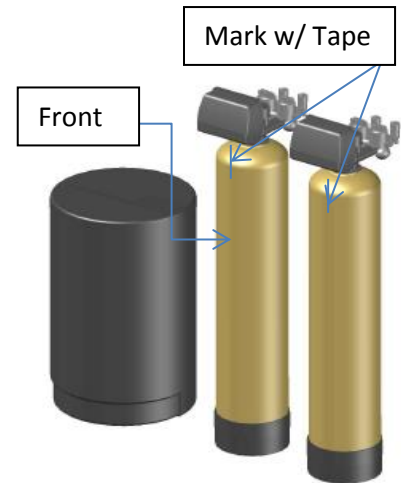

Figure 7: Correctly Set Up DCS6 Twin System
- d. Mark the "front" of each resin tank (shown in Figure 7) with either a marker or tape. The front of the resin tank is determined by the location of the face of the control valve once it has been secured to the face of the control valve. Make sure that the system is positioned in a way that the plumbing can be installed.